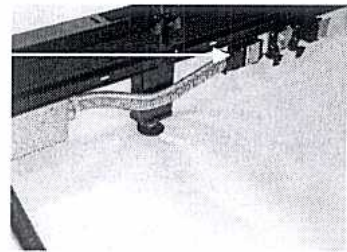

fig 3
4. Connect the metal flex conduit that exits the right side of the NYBF box to the rigid wireway of the adjacent panel. (see fig 3).